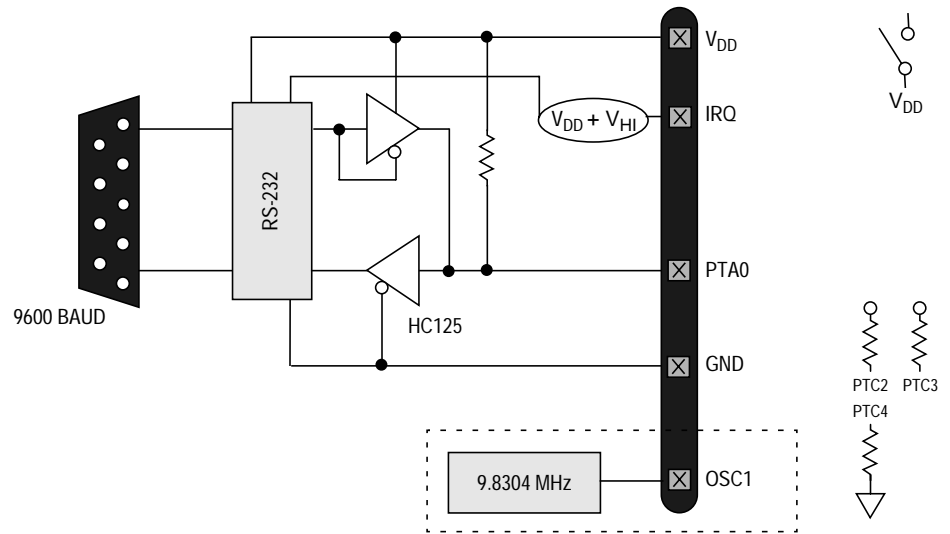
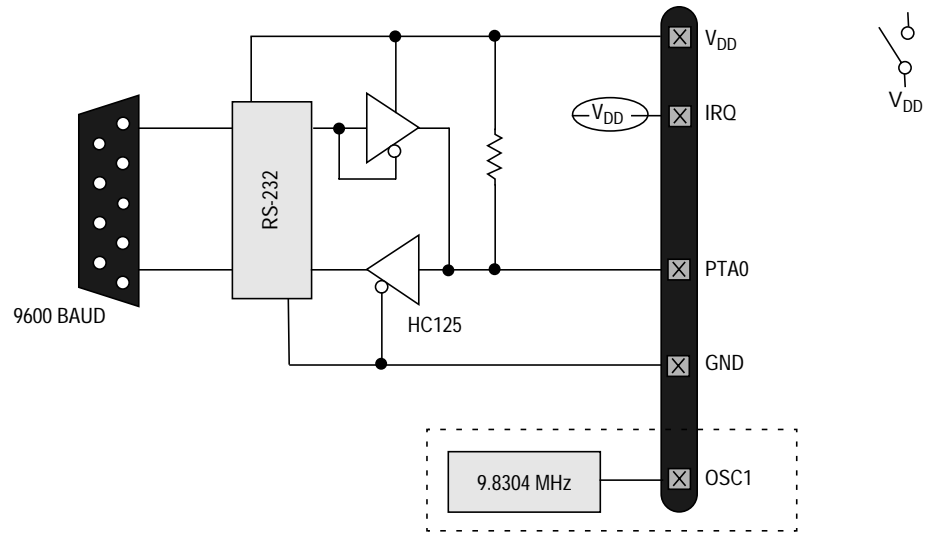

Figure 4. MC68HC908MR32 Standard Monitor Mode (9.8304 MHz)
Figure 5. MC68HC908MR32 Forced Monitor Mode (9.8304 MHz)
- c. RS-232 communications circuit. Also needed is a 5-volt power source to power this circuit (see Figure 4 and Figure 5).
2. Connections (see Figure 4):
- a. Blank part with oscillator value from Table 2. See Figure 5.